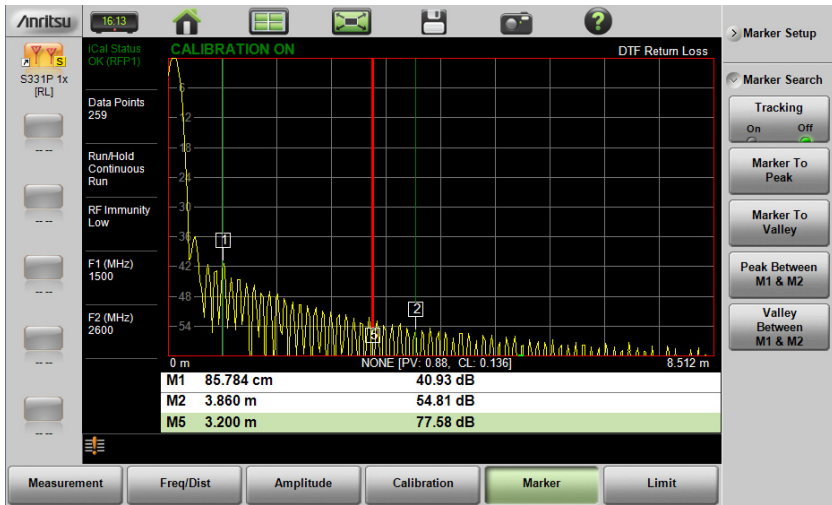

Figure 3-32. Bounded Marker Search
3. Press Marker Search and select Valley Between M1 & M2. Marker 5 will move to the valley between M1 and M2. See Figure 3-32. The valley search would also work if M1 and M2 were set and then turned off.